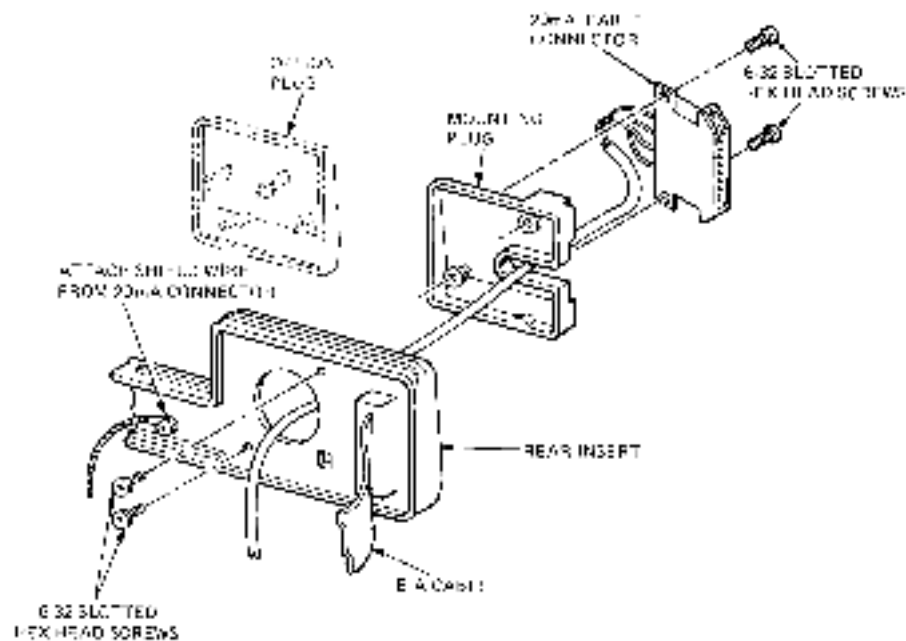

Figure 3-21 Mounting 20 mA Cable Connector
10. Remove the option plug from the rear insert (Figure 3-21).
11. Insert the 20 mA cable connector through the hole now visible in the rear insert (Figure 3-21).
12. Attach the 20 mA cable connector to the mounting plug using two (6-32) slotted hex-head screws (Figure 3-21).
13. Attach the mounting plug to the rear insert with two (6-32) slotted hex-head screws (Figure 3-21).